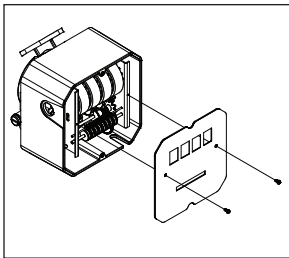

Figure 1
2. Remove the two screws that hold the faceplate in place and remove faceplate. (Figure 1)